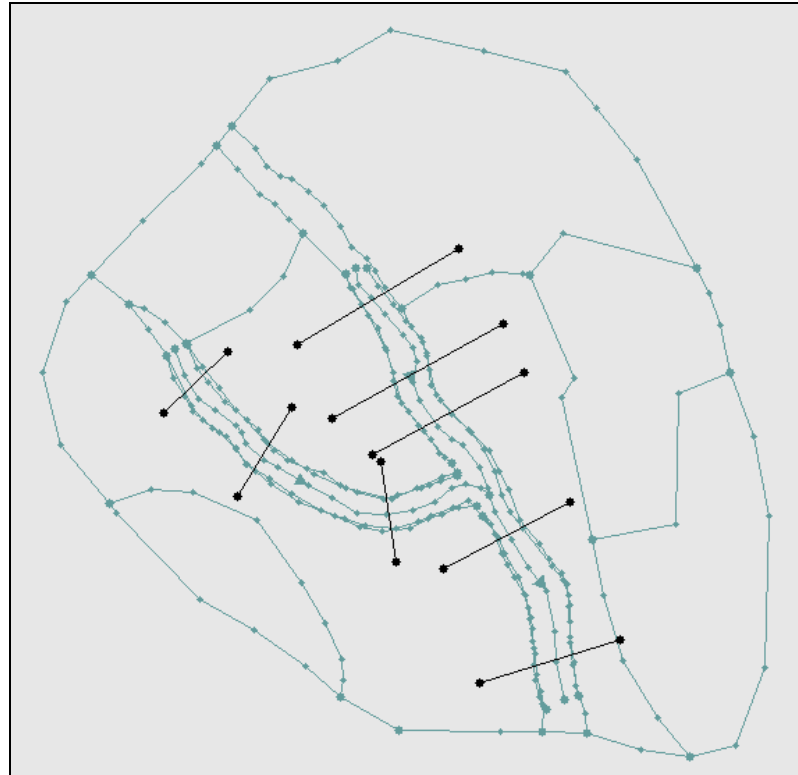

Figure 4-6: Cross section coverage
3. Create at least two cross sections on each reach by clicking a point on one side of the reach then double-clicking a point on the other side of the reach as shown in Figure 4-6